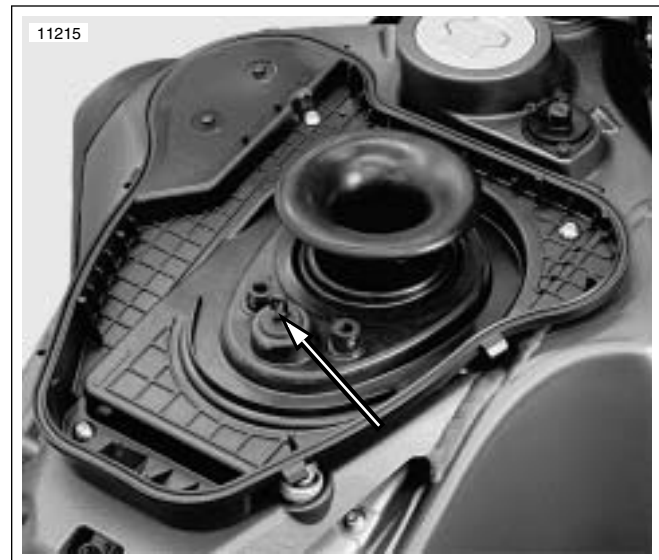

Figure 4-78. Intake Air Temperature Sensor Installed
See Figure 4-78. The intake air temperature sensor (IAT Sensor), located on the air cleaner cover base plate, measures the air temperature allowing the ECM to calculate the density of the air entering the manifold. The IAT is a thermistor type sensor.
2. See Figure 4-78. Remove air cleaner cover and filter. Remove fasteners securing base. See 4.44 AIR CLEANER ASSEMBLY.